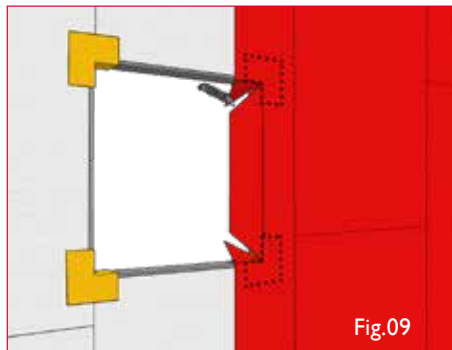

Fig.09
4. Use a box cutter to cut the Membrane in the corners at a 45deg angle and fold inwards (Figs. 09 & 10). Wraptite Corner edges that bridge the opening (A) must be completely sealed by the Membrane. Wraptite Corner and Membrane edges along the interior side of the wall (B) remain uncovered. Use a roller to ensure Membrane and Corners are well-adhered.